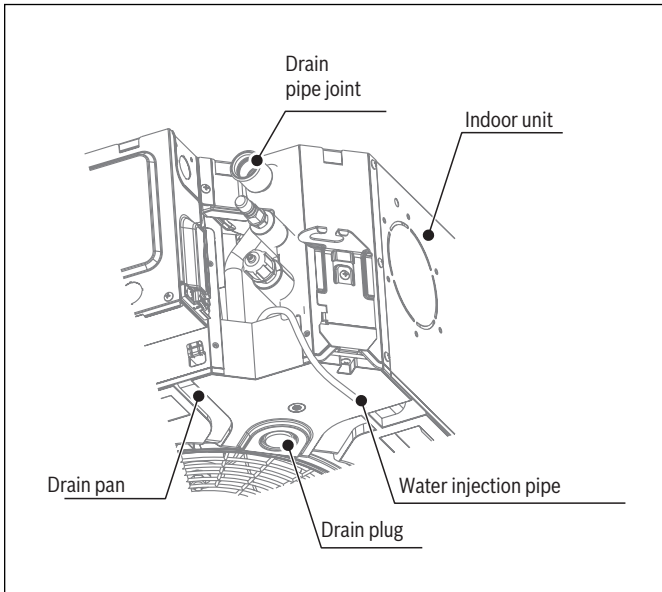

Figure 38
- Put approximately 1/4gal. of water into the drain pan through the fresh air intake. Make sure not to pour water over the drain pump or any electric parts including the drain pump. Remove the water cover and place a tube to add water through the uncovered hole (See Figure 38).